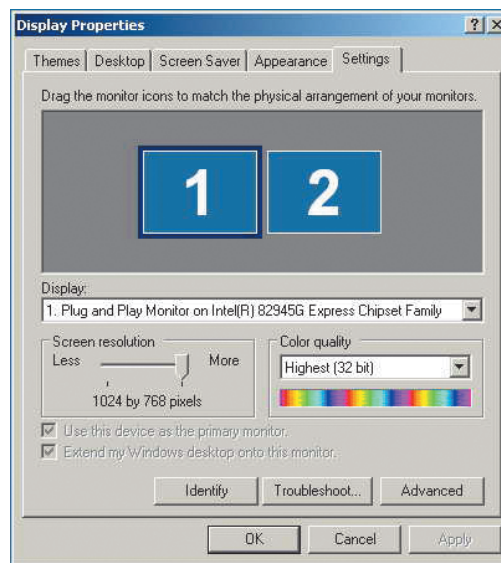

Figure 11. Settings Screen
3. Select the SETTINGS tab to display your computer's video output settings (refer to Figure 11).